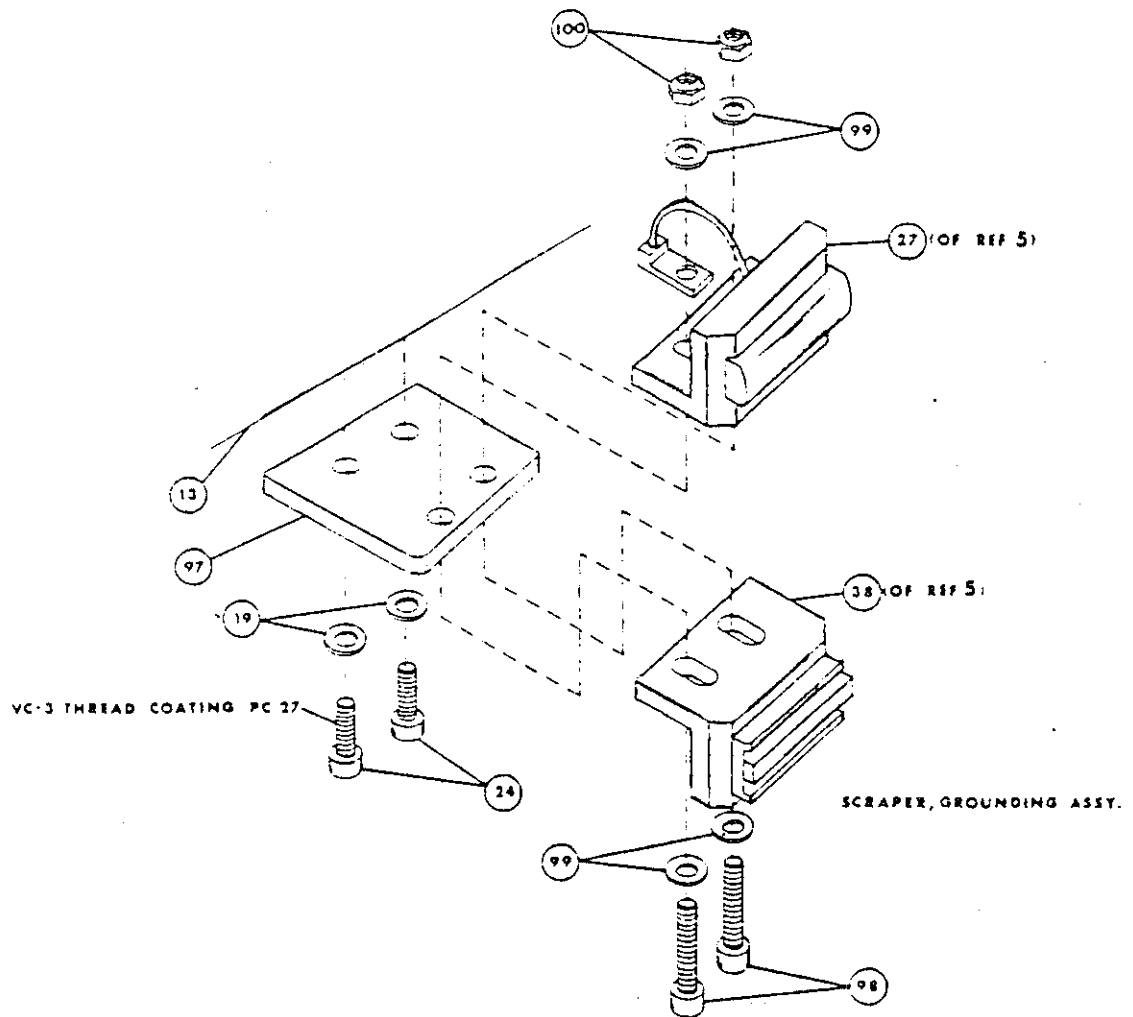

Figure 3-3. Grounding Spring and Scraper Assembly
- Step 20. Align tension scraper and grounding spring against external faired mast grounding strip. Secure and lockwire scraper and grounding spring to the bearing frame when rubber is compressed (deflected) 1/16 of an inch. See Figure 3-3.